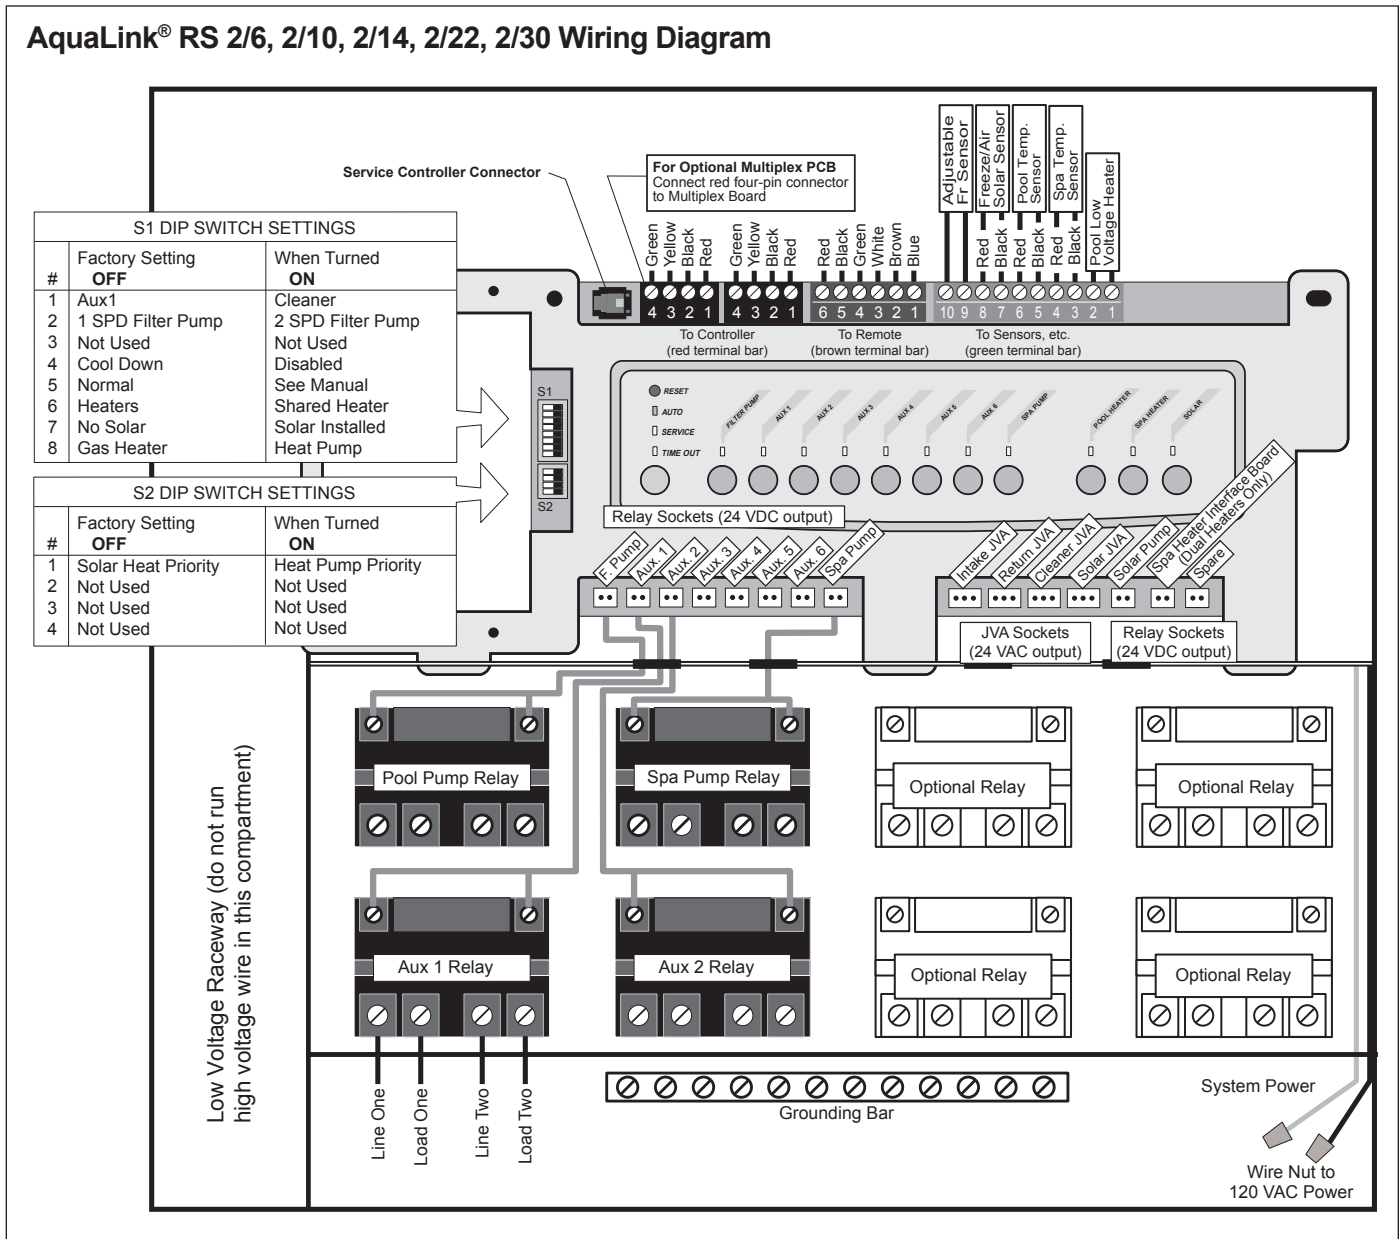

Figure 5. Dual Equipment Wiring Diagram
2. Connect the sensor wires to the 10 pin terminal bar as shown in dual equipment wiring diagram (see Section 5, Figure 5).
Install the Freeze/Air Temperature Sensor outdoors where it will be subjected to outdoor temperatures, but not in direct sun. Connect the sensor wires to the 10 pin terminal bar as shown on the Power Center wiring diagram. Connect the other sensors to the 10 pin terminal bar as shown in the wiring diagram (see Figure 5).
Install the sensor adjacent to the solar panels. Connect the sensor wires to the 10 pin terminal bar (pins 7 & 8) as shown in the wiring diagram. Connect the other sensors to the 10 pin terminal bar as shown in the wiring diagram (See Figure 5).
Connect the high voltage relay plugs into their appropriate sockets according to the wiring diagram located on the inside of the Power Center door (see Section 5, Figure 5).
See the wiring diagram in Figure 5 to set all DIP Switches for optional operation features.